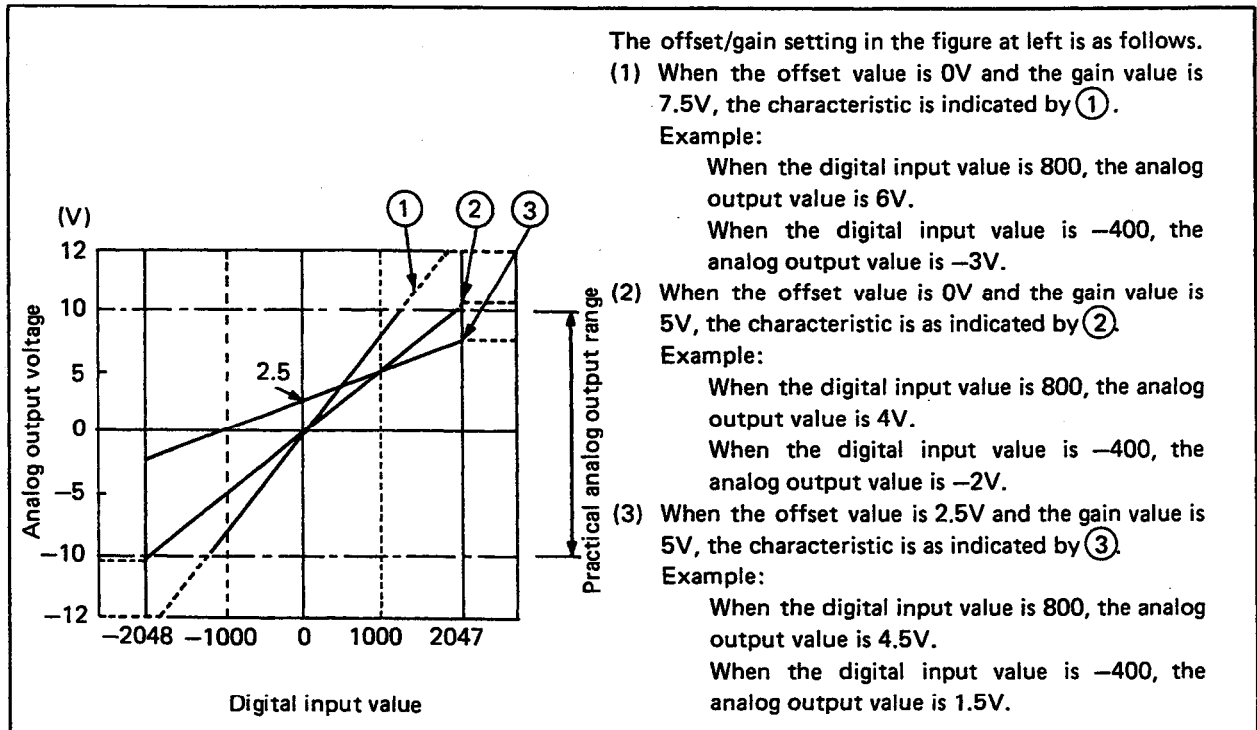
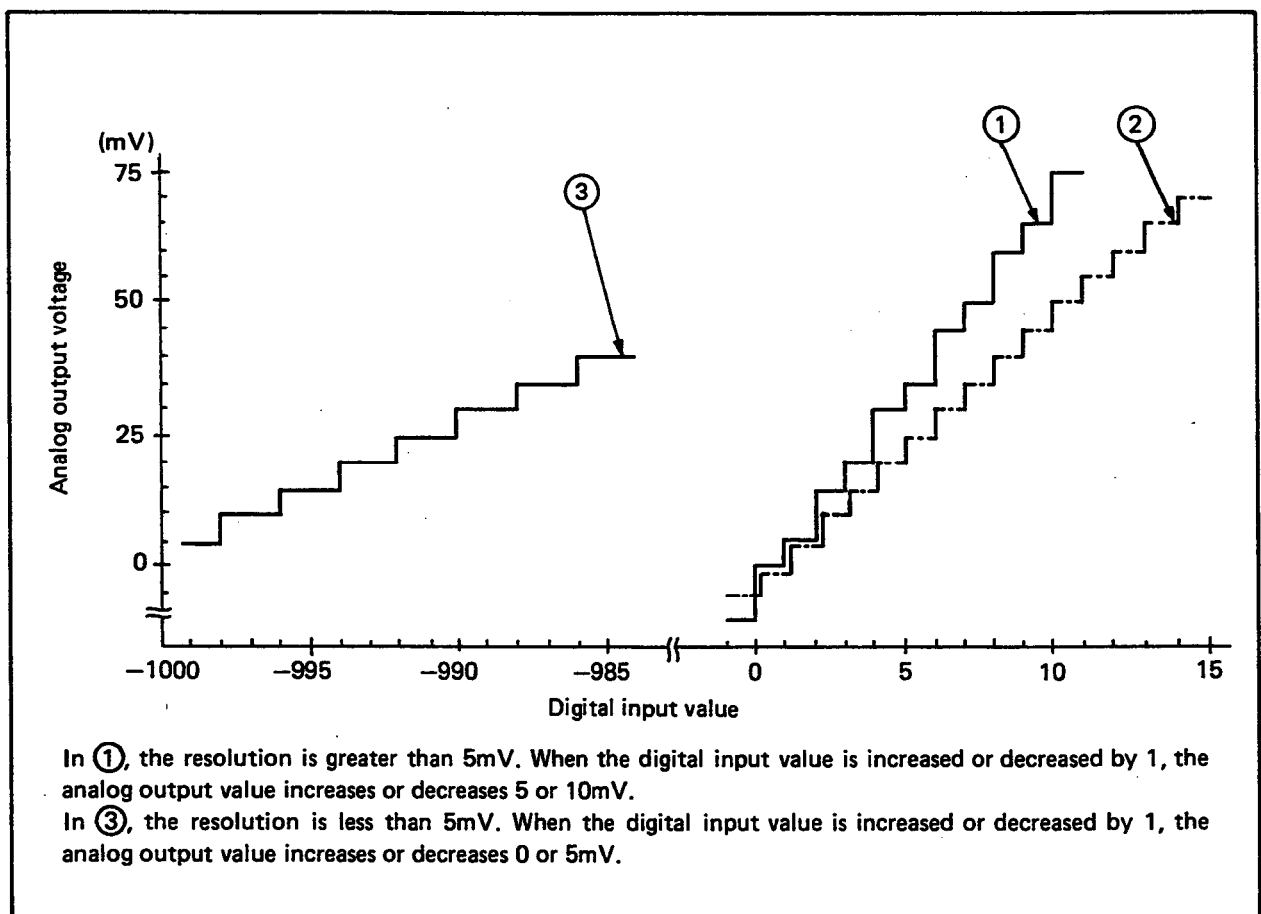

Fig. 3.2 Voltage Output Characteristic
Fig. 3.4 Digital Input Value and Voltage Output
Fig. 3.2 shows a voltage output characteristic example for several offset/gain settings.
- The maximum resolution and overall accuracy are within the range of performance specifications when the working analog output range is -10 to 0 to +10V. Avoid use outside the above indicated range (dotted line on the voltage output characteristic graph in Fig. 3.2).
Fig. 3.4 and 3.5 show the relation between the digital input value and the analog output value when the offset/gain setting is changed. The offset value and gain value are values in the voltage and current output characteristic graphs in Fig. 3.2 and 3.3.